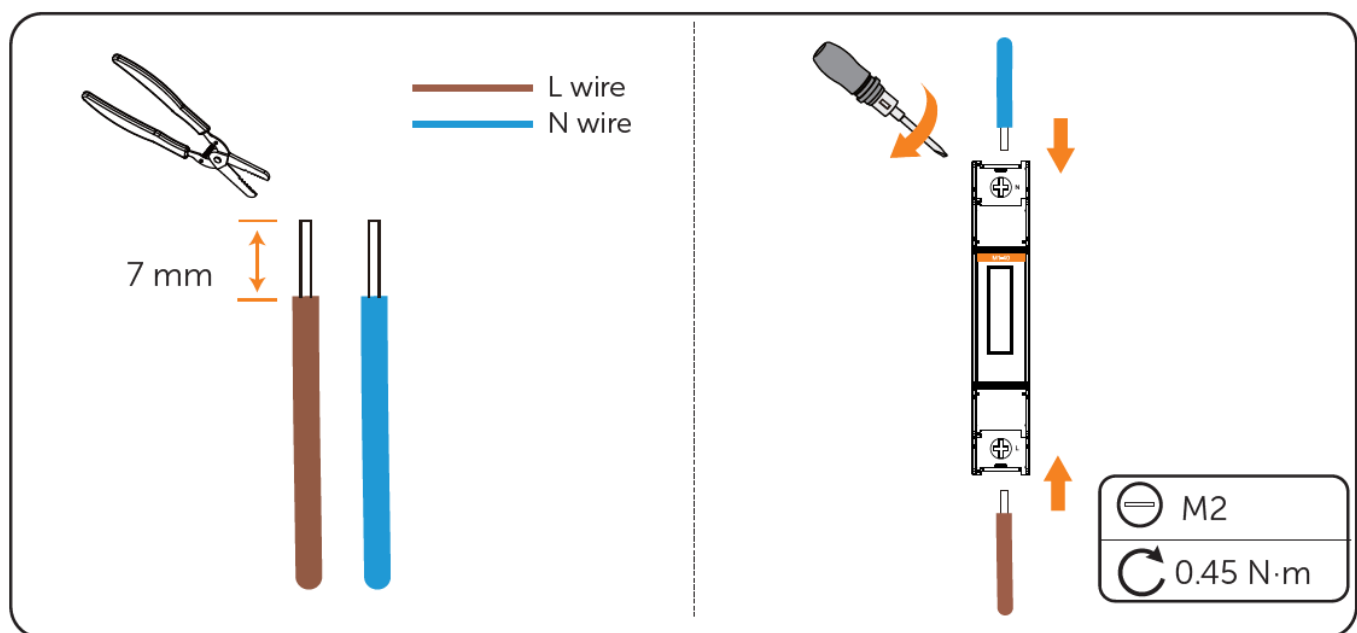

Figure 6-1 Connecting power cables
1. **Power Cable Connection:** Connect the L and N wires according to the specified cable type and sectional area. See Figure 6-1.